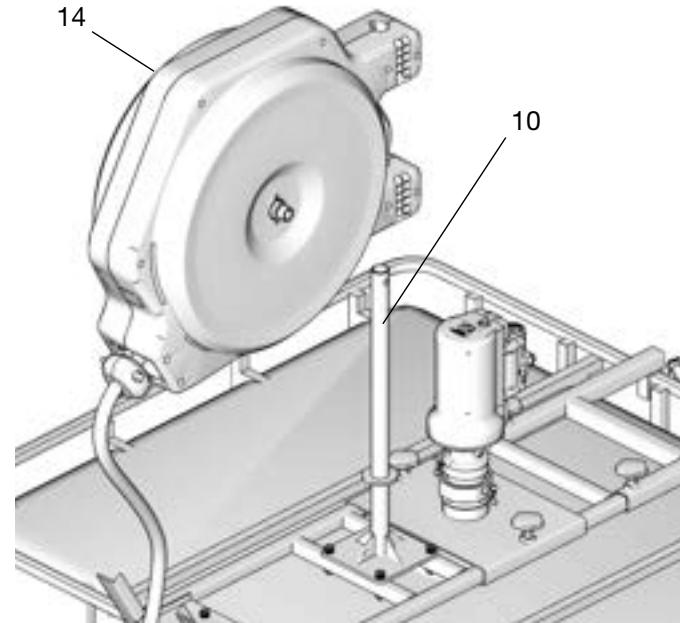

FIG. 17
3. Install the hose reel (14) on the reel bracket (10) (FIG. 17).